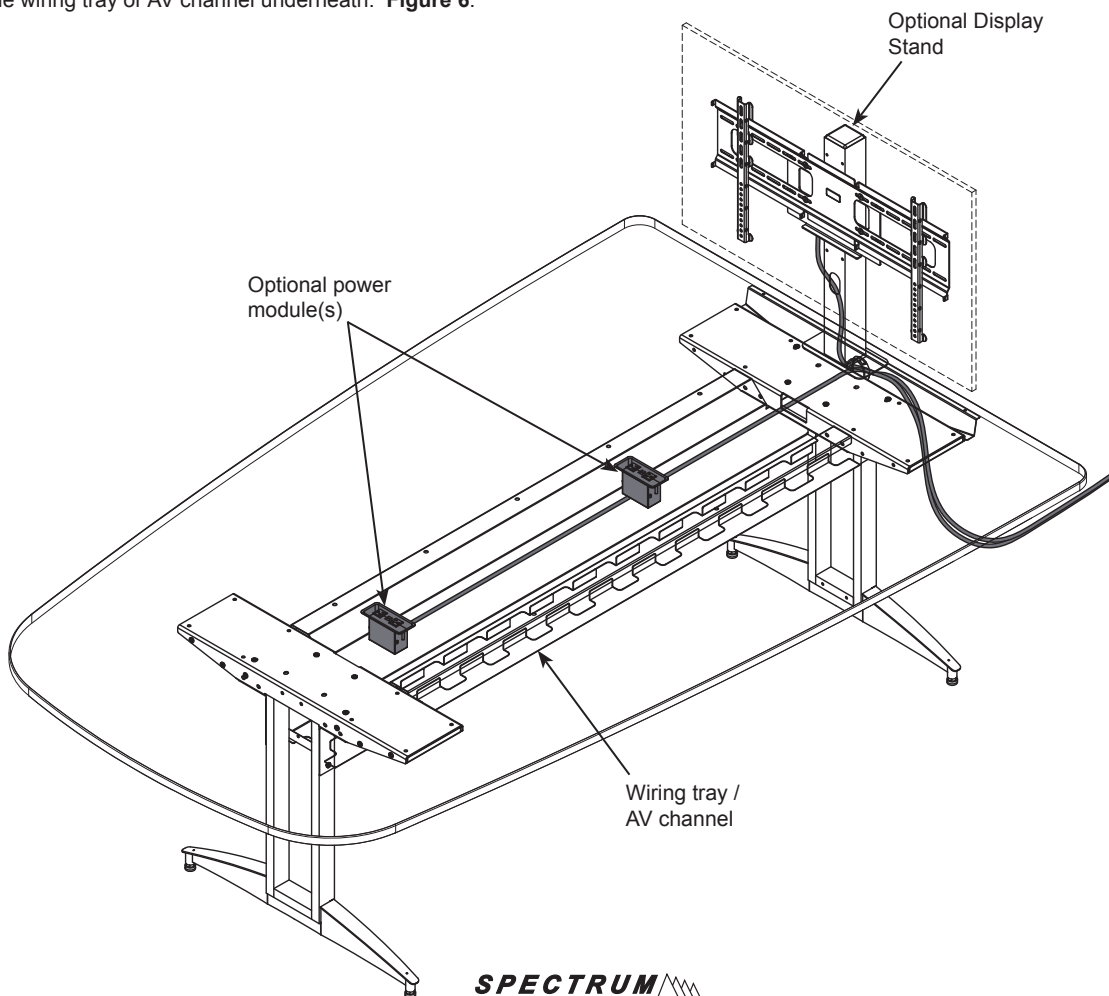

Figure 6
1. If your worksurface has cutouts for optional power modules or other components, install the devices then route and secure the cords using the wiring tray or AV channel underneath. **Figure 6.**